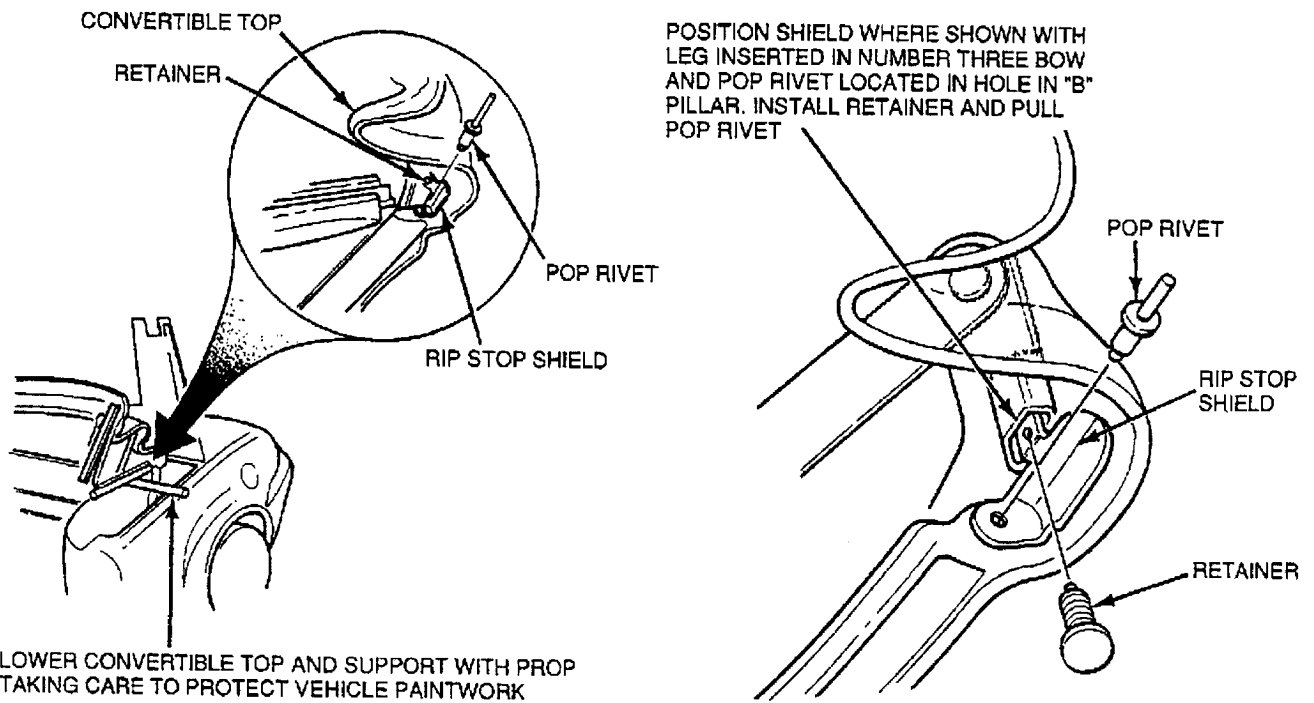

Fig. 1: Installing Rip Stop Shield
1. Lower the convertible top and support it at a comfortable working level (see Fig. 1).
4. Place the shield against the "B" pillar and locate it in position using a pop rivet (V840098-S36C), Figure 1.